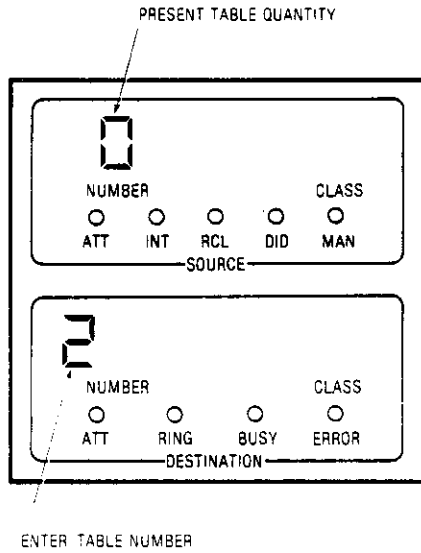

Fig. 250-1
- [4B] Dial Table quantity digits (TABLE 205-1)(Fig. 250-1).